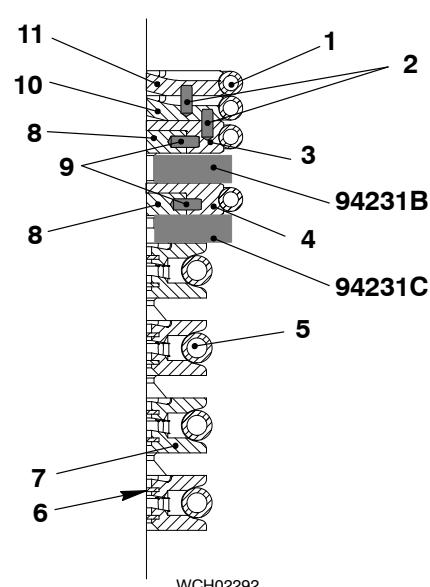

Fig. 5
- 5) Put the next three parts of the ring support (7) and the scraper rings (6) on the distance piece. Make sure that there is an equal distance between the three parts.
- 6) Use the assembly tool (94233) to attach the tension spring (8) to the ring support (7).
- 8) Do step 4) to step 7) above again until the four ring supports (7) are attached to the piston rod (5).
- 9) Put the two parts of the distance piece (94231C, 11.0 mm height) on the top ring support (7).
Note: One segment of the gaskets (3, 4, and 8, Fig. 5) has two holes for the horizontal spring dowel pins (9). The other three segments have only one hole. On the top of one segment of the gasket (3) there is one hole for a vertical spring dowel pin (2).
- 14) Put the two parts of the distance piece (94231B, Fig. 5 (12.0 mm height) on the gaskets (4, 8).
- 16) Make sure that all horizontal spring dowel pins (9) and the vertical spring dowel pins (2) are installed.